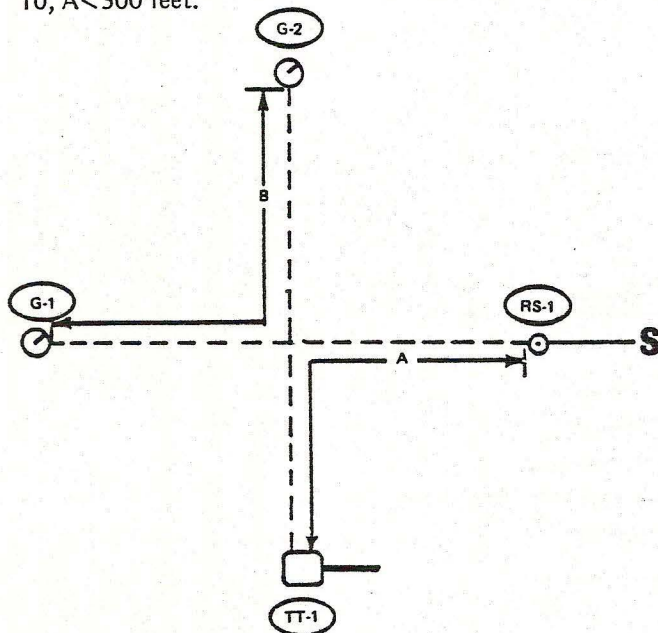

Figure 10
2. The length of the tubing between the transmitter and restrictor does not exceed 300 feet. Referring to figure 10, $A < 300$ feet.
3. The total length of tubing from restrictor to gauges and transmitter does not exceed 1000 feet. Referring to figure 10, $A + B < 1000$ feet.